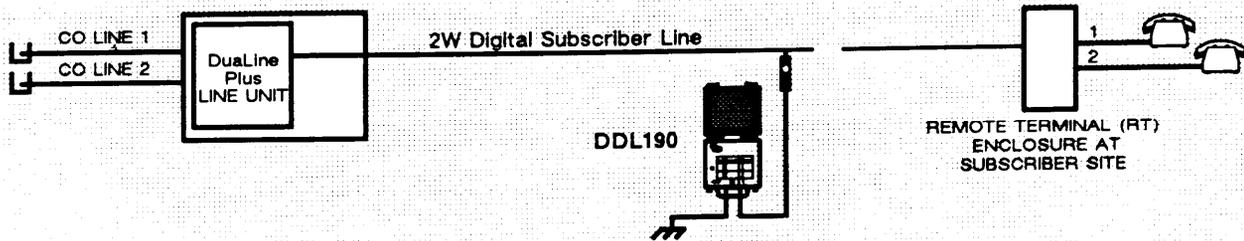

Figure 2. DualLine Plus Remote Terminal Simulator Application
2.01 The Wescom DDL190 DualLine Plus Remote Terminal Simulator (RTS) is used to check the operation of a DualLine Plus Line Unit (LU) (see Figure 2). When connected to the Digital Subscriber Line (DSL) of a DualLine Plus LU, the DDL190 RTS provides LED indicators for power and synchronization. Test points are provided for Tip and Ring of the subscriber drop.